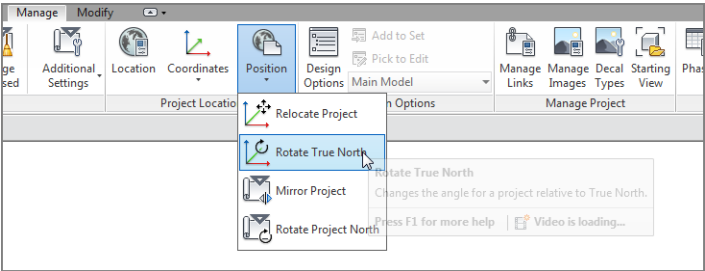

FIGURE 18.29: Rotating true north
2. On the Manage tab, click Position ➤ Rotate True North, as shown in Figure 18.29.